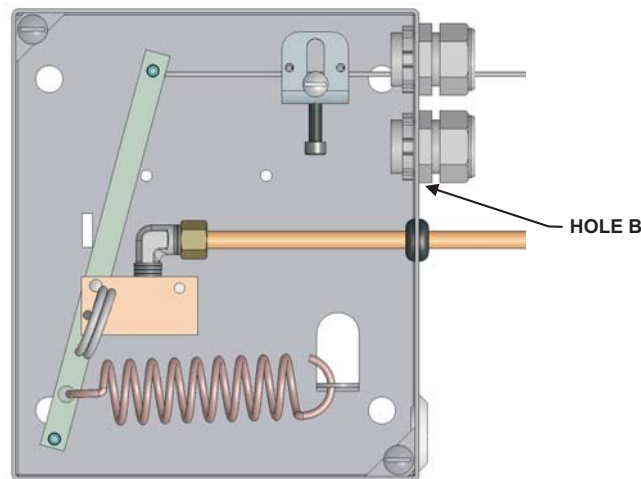

Figure 4-45. Single SPDT Microswitch Installation
2. Connect 1/2-inch (13 mm) EMT to hole “B” on the side of the A+ Control Box (Figure 4-45).